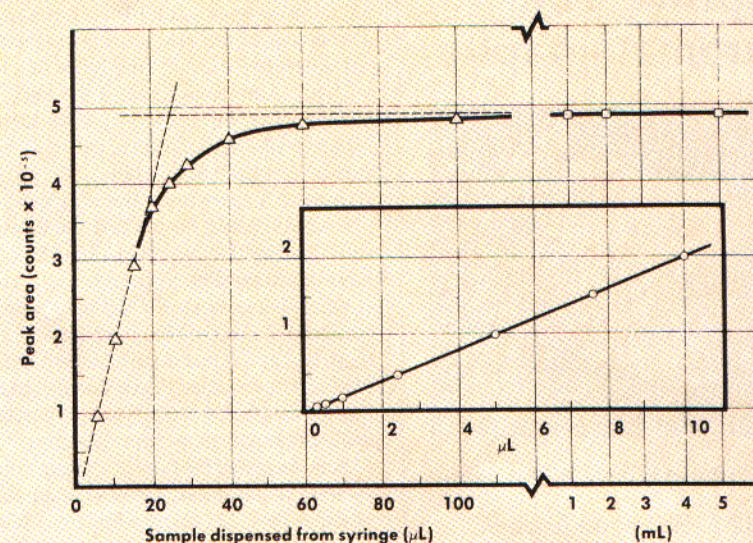

FIGURE 2: Linearity of filling using partial-loop injection technique. (Courtesy of Rheodyne, Cotati, California.)
Figure 2 illustrates the relationship between sample loaded into the loop and sample injected onto the column (as determined by peak-area measurements). When <10 μL of sample is placed in a 20- μL loop, there is a linear relationship between volume placed in the loop and amount of sample injected; when >40 μL is used, the injected volume is $\pm 5\%$ of loop volume. In the 10–40 μL range, however, a nonlinear relationship is in evidence (4). This is the basis for recommending use of less than 50% of loop capacity (partial-loop injection) or more than two times loop capacity (filled-loop injection) for maximum injection precision.